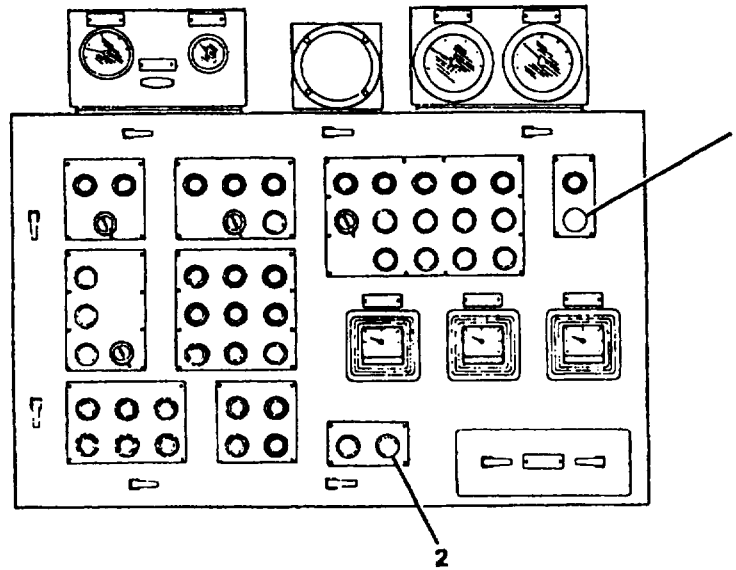

Figure 2-50. Start-Up After Emergency Shutdown
v. Slowly turn system pressure control valve (26) clockwise until product flowmeter (29) shows mission normal flow (refer to Tables 2-18 and 2-20) or selected push condition water flow.
(1) Check the product water TDS. When it falls below the previously determined maximum (para. 2-17d), direct the product water into the storage tank. Extend the free end of the hose well into the tank.
(2) Fill the clean/flush tank if empty with product water from the product utility hose (para. 2-17b).
**2-20. START-UP AFTER EMERGENCY SHUTDOWN.** Use this procedure to restart the ROWPU after an emergency shutdown (Figure 2-50).